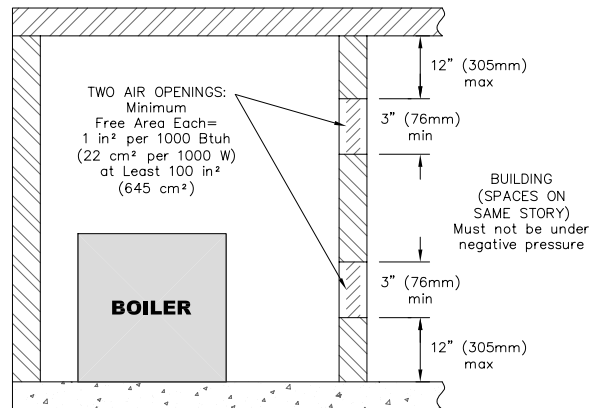

Figure 1.1: Air Openings – All Air from Indoors on the Same Floor
- a. **Combining spaces on the same floor:** Provide two permanent openings communicating with additional spaces that have a minimum free area of 1 in² per 1000 Btu/hr (22 cm² per 1000 W) of the total input rating of all gas fired equipment but not less than 100 in² (645 cm²). One opening is to begin within 12 inches (305 mm) of the top of the space and the other is to begin within 12 inches (305 mm) of the floor. The minimum dimension of either of these openings shall be 3 inches (76 mm). See Figure 1.1 for an illustration of this arrangement.